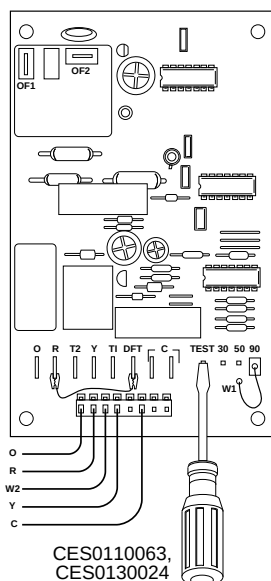

Fig. 13—Defrost Control
2. Disconnect outdoor fan motor lead from OF2 on control board. (See Fig. 13.) Tape lead to prevent grounding.
5. Short between speed-up terminals with a flat bladed screwdriver. (See Fig. 13.) This reduces the timing sequence to 1/256th of original time. (See Table 3.)
- Turn off power to outdoor unit and reconnect fan motor lead to OF2 on control board. (See Fig. 13.)